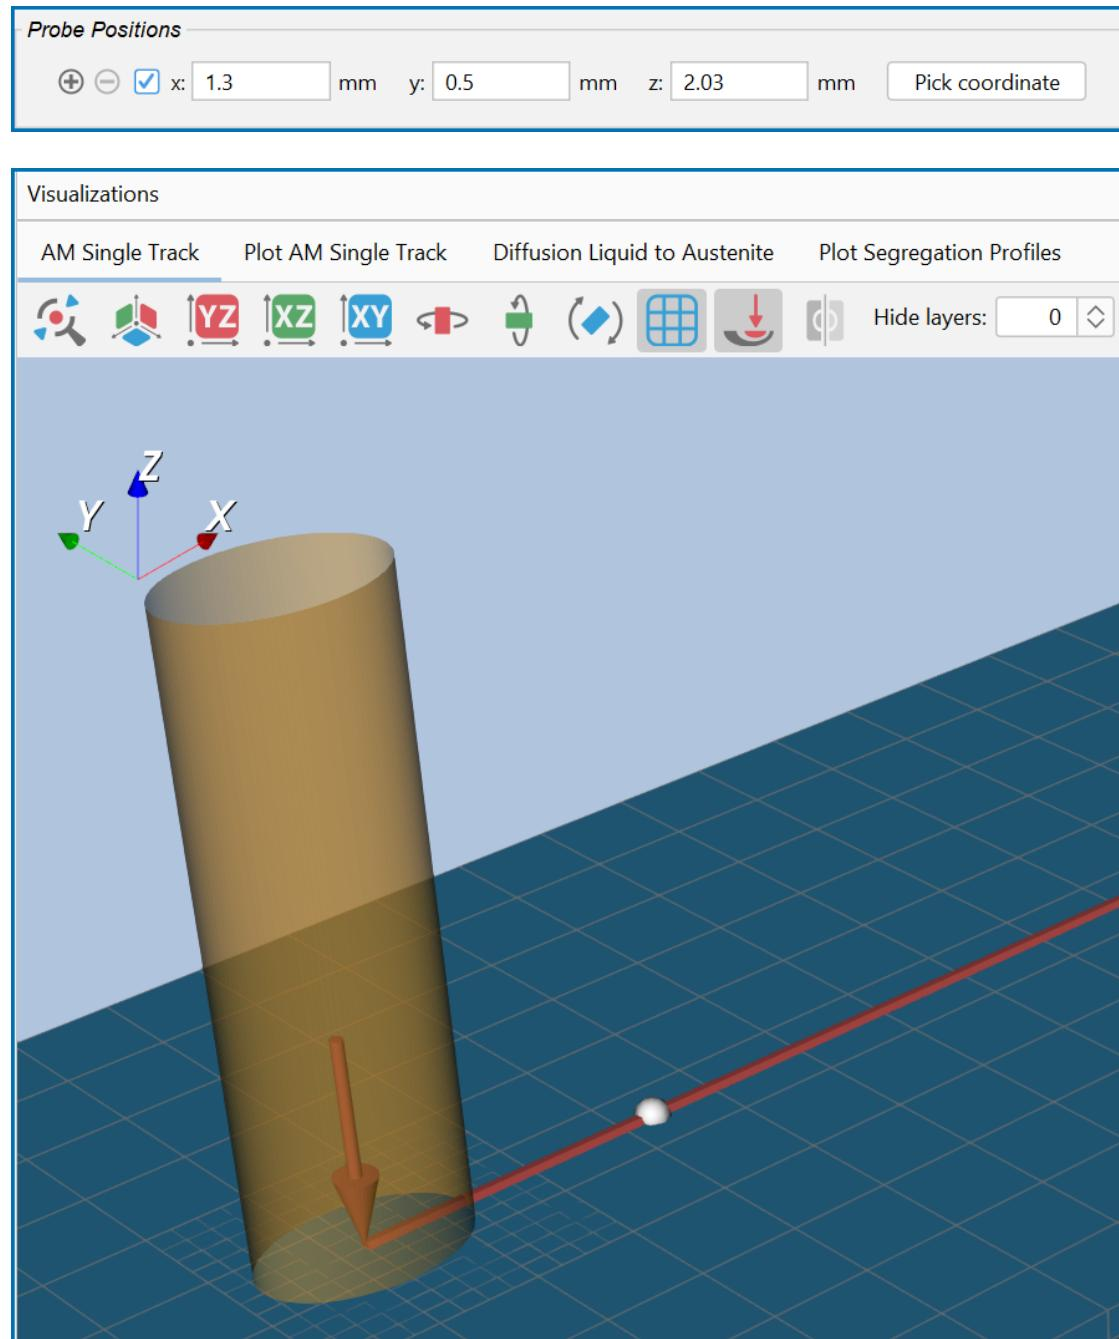

Figure 36: Close up of the probe point added to the geometry for the single track AM simulation.
- **Probes:** Probes are added to the AM Calculator during the set up either by entering coordinates or directly adding these to the geometry. See Figure 36 and Figure 37 for example.